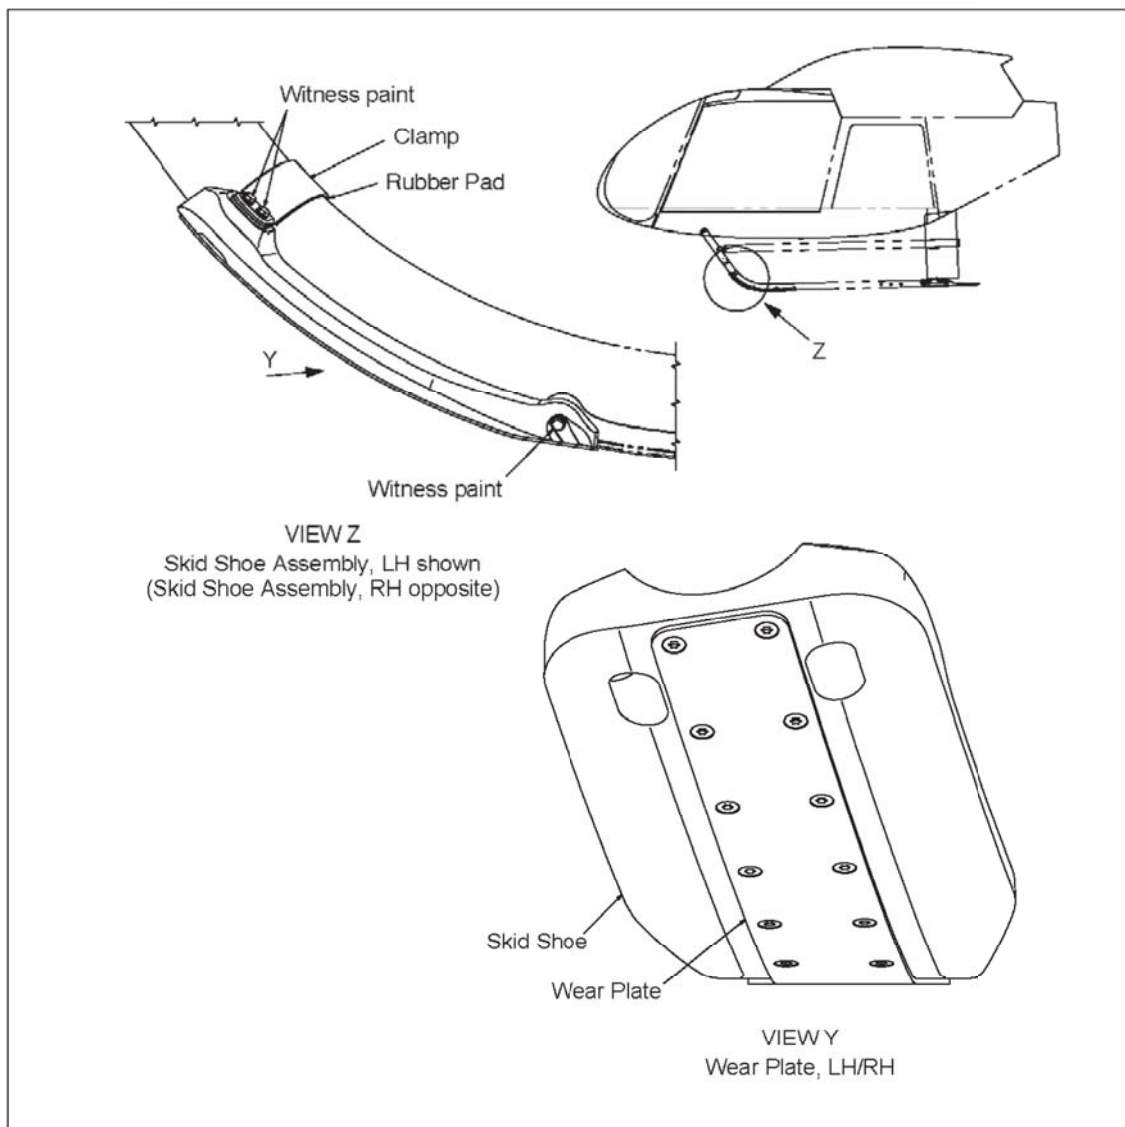

Figure 1 Skid Shoe details
A. The Installation of Skid Shoes facilitates run-on landings in soft ground by limiting the sinking behaviour of the skids. The skid shoe assembly consists of a plastic shoe machined from Tivar plastic and a titanium sheet metal wear plate protecting the bottom of the shoe. The skid shoe is installed onto the skid tube overlapping the existing forward wear plate picking up on existing hardware. A clamp with a rubber pad secures the forward end of the skid shoe. With this installation there is no modification required to the existing landing gear. Refer to Figure 1.
The following checks are to be carried out prior to every flight with the Skid Shoes installed. Refer to Figure 1.